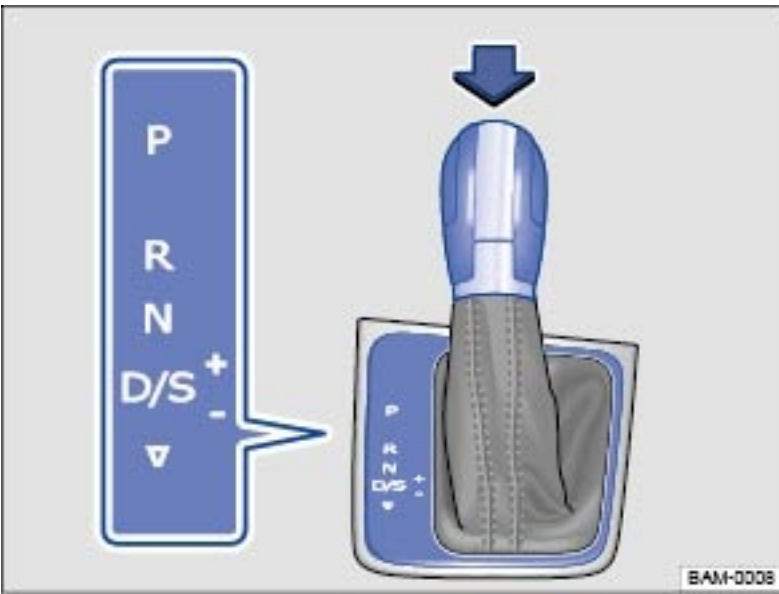

Fig. 139 Automatic transmission selector lever with shift lever release button (arrow).
Automatic transmission vehicles have an Automatic Shift Lock (ASL). With ASL, you must switch on the ignition, depress the brake pedal and hold it down while pressing the release button on the selector lever handle in the direction of the arrow → Fig. 139 to move the selector lever out of Park (P) and into a drive gear. When the selector lever is in Neutral (N), you also have to depress the brake pedal before you can move the selector lever to position (D/S), or Reverse (R).
Changing gear	Switch between Drive (D) and Sport drive (S) by pulling the selector lever once to the rear from gear position D/S → Fig. 139. The selector lever always returns to gear position D/S.